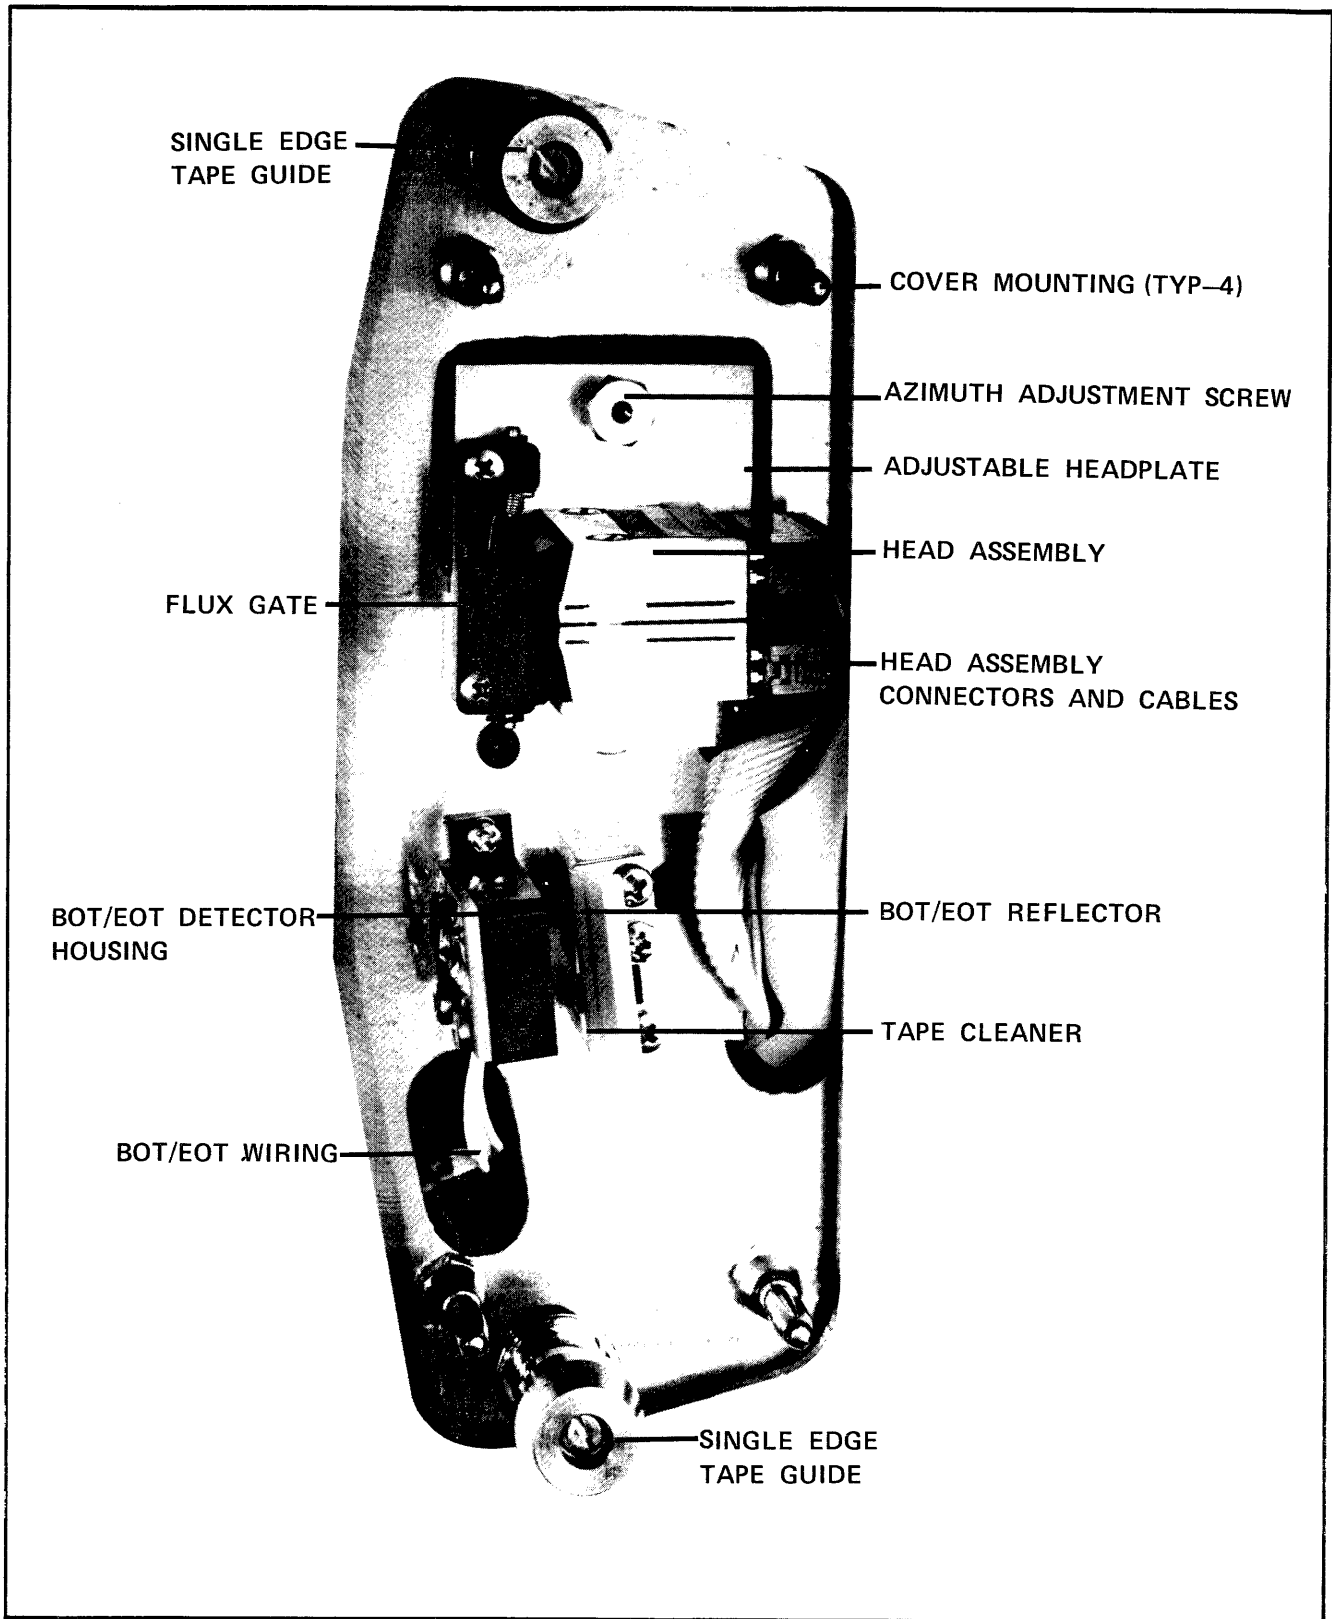

FIGURE 1-5. HEADPLATE ASSEMBLY DETAILS
1.2.12 HEAD ASSEMBLY (See Figure 1-5.)